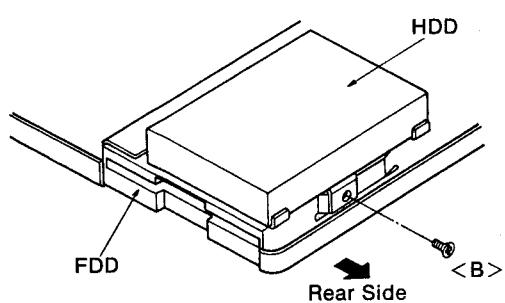

Figure 18
- (2) Remove one screw ($2.8\phi \times 5\text{mm}$) as shown in Figure 18.